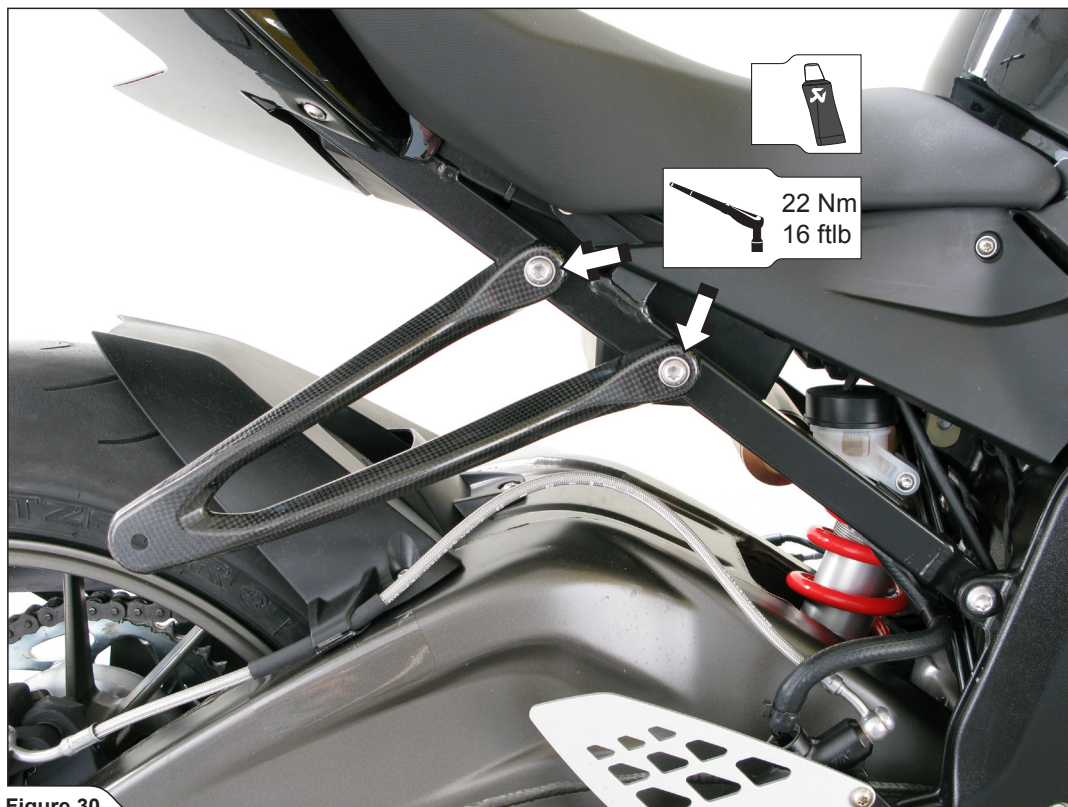

Figure 30
13. For optional carbon-fiber muffler bracket only: attach the optional Akrapovič carbon-fiber bracket as shown, using stock bolts (Figure 30).